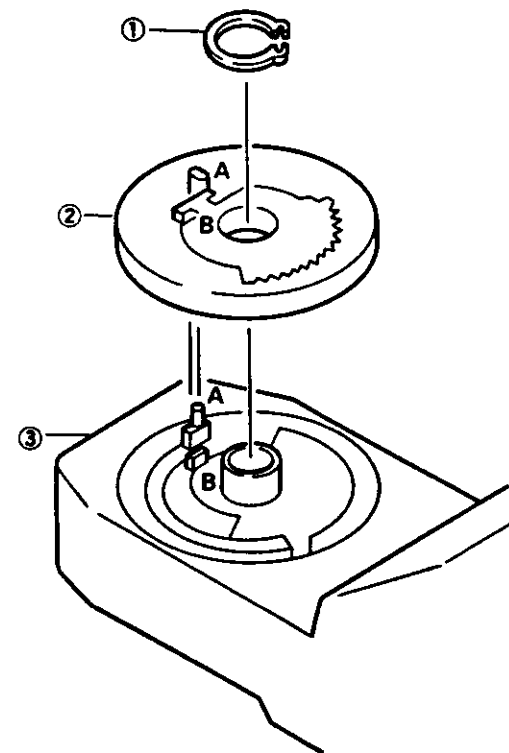

Fig. 44
16. ASA dial (see Fig. 44)
- 1) Mount the FINDER COVER ③ (sketch No. 25 on page 36) on the body.
- 2) The ASA DIAL ASSY ② in Fig. 44 is described upside-down.
- 3) Insert A and B portions of the ASA dial assy into A and B portions of the finder cover shown in Fig. 44.
- 4) Fix it with G TYPE RING ①.